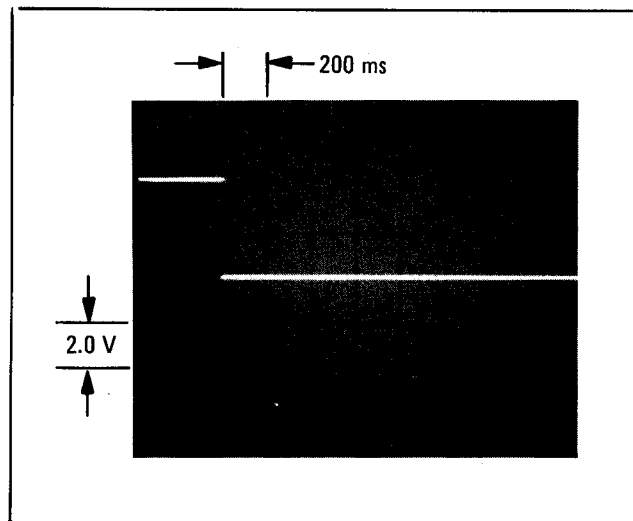

Figure 2. Display of High Slew Rate Pulse
2. Increase the frequency in 10 MHz steps. Verify that the waveforms are the same as those of Figures 2, 3 and 4. The loop is being phase locked.